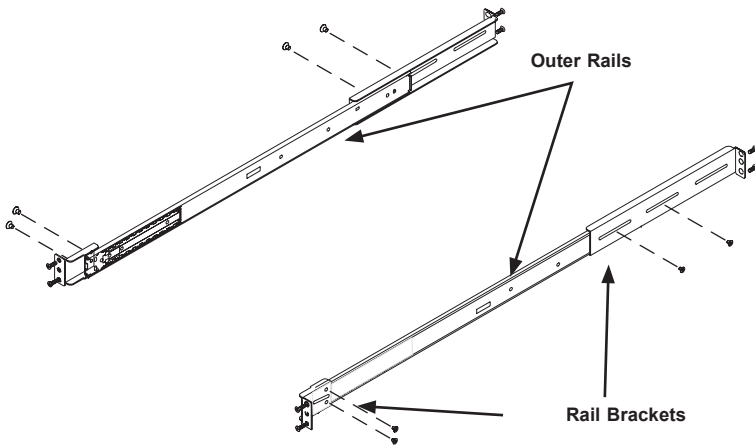

Figure 5-3. Rack Brackets
1. Confirm that the chassis includes the inner rails (A) and that the outer rails (B) are installed on the rack (See Figure 5-3)
2. Align the chassis rails (A) with the front of the rack rails (C).